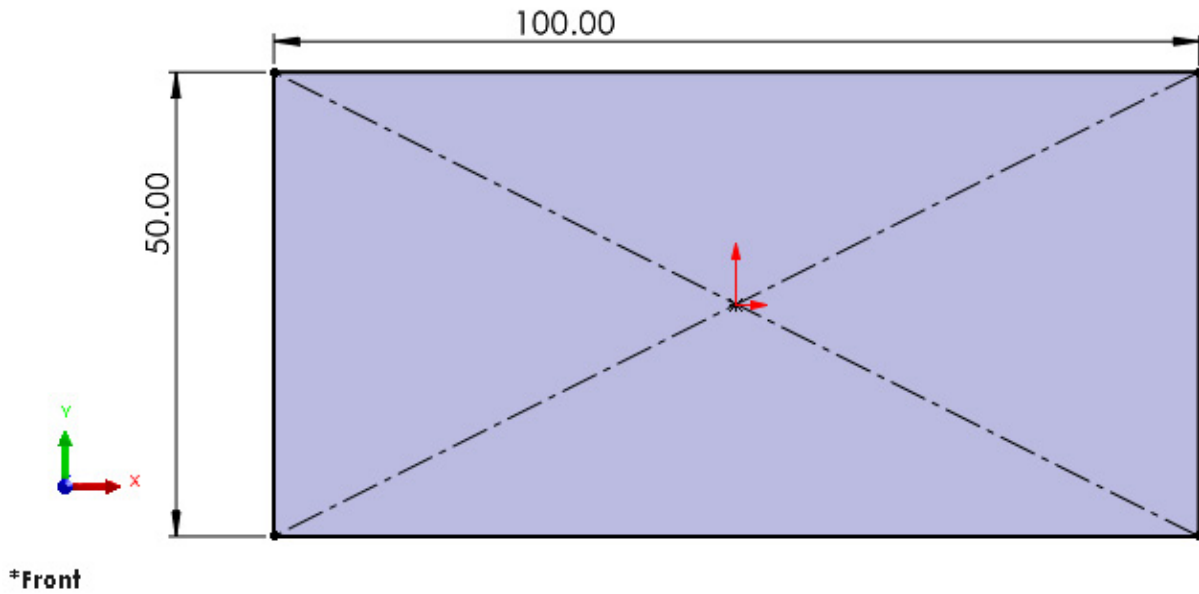

Figure 7.1: Lofted Bend profile sketch
1. Start a new *part* document and sketch the first bend profile (see *Figure 7.1*) on the **Front Plane**. This can be drawn using a Center Rectangle, **100x50mm** in size, and fixed to Origin: